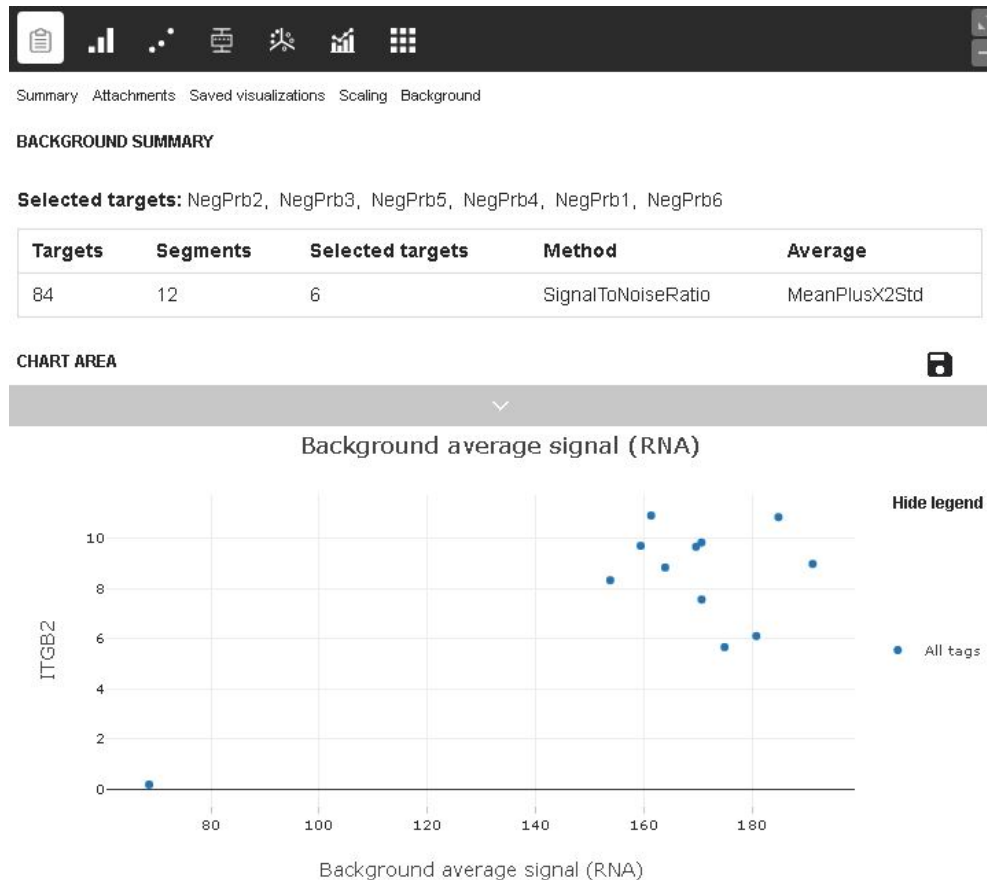

Figure 32: Background results plot
- The **Chart area** (see Figure 32) provides visualizations plotting the background average signal against adjusted counts for the selected probe; change this probe using the **Select probe** field.